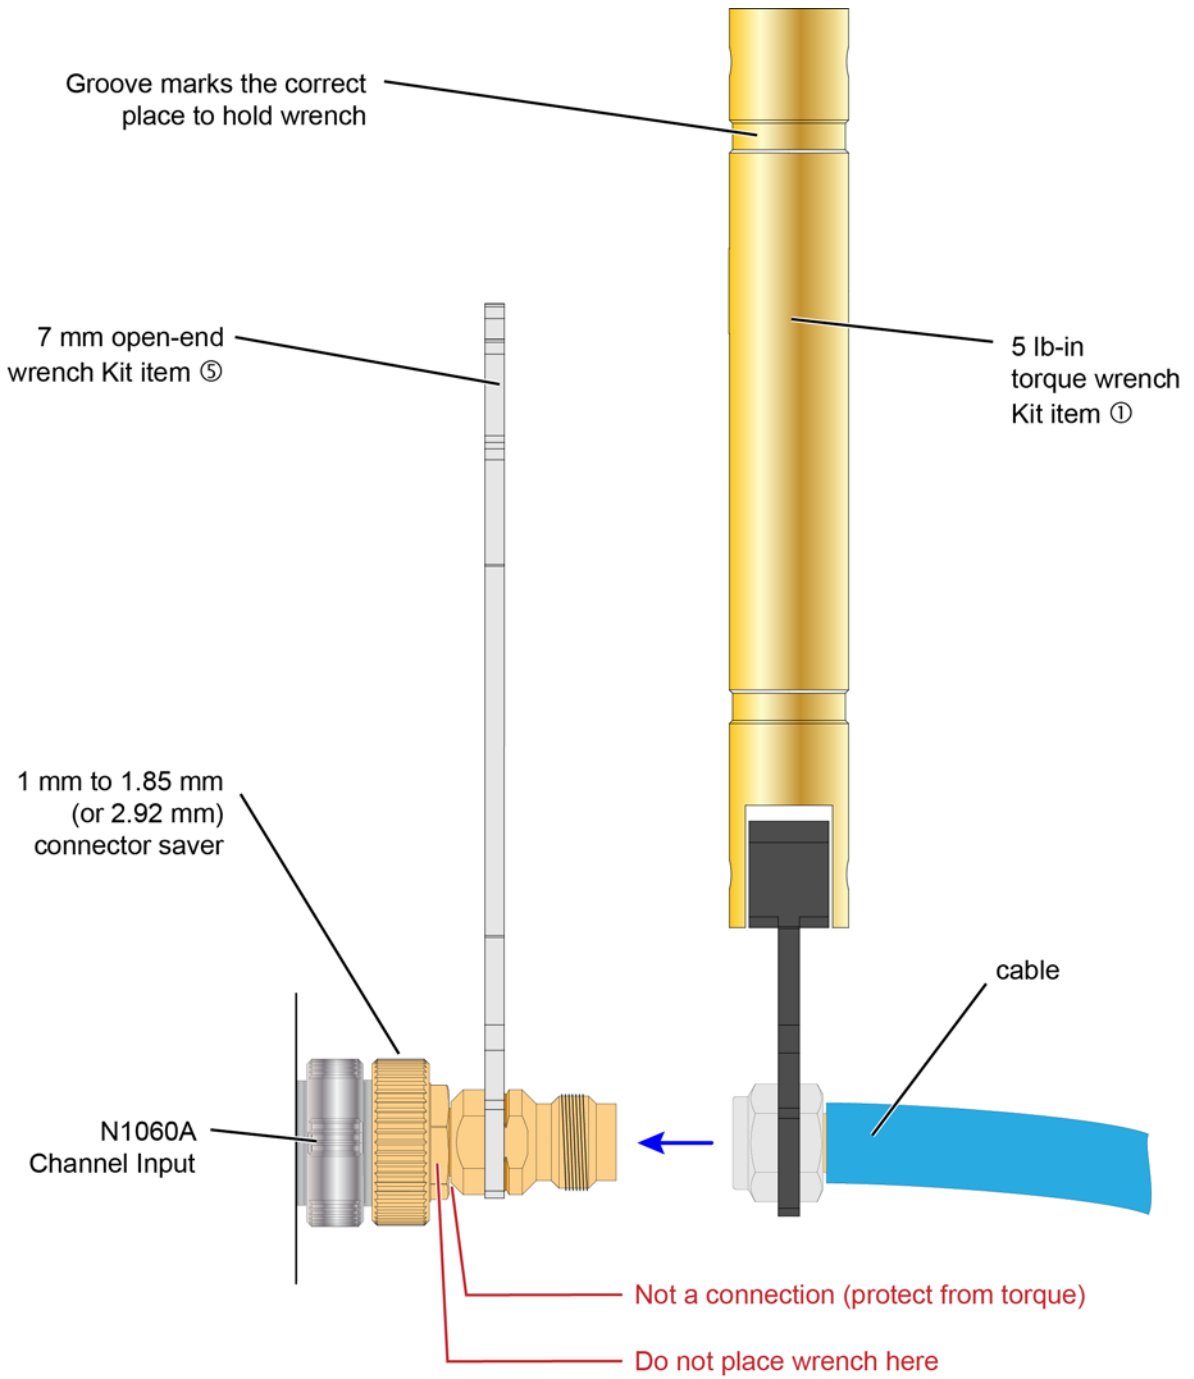
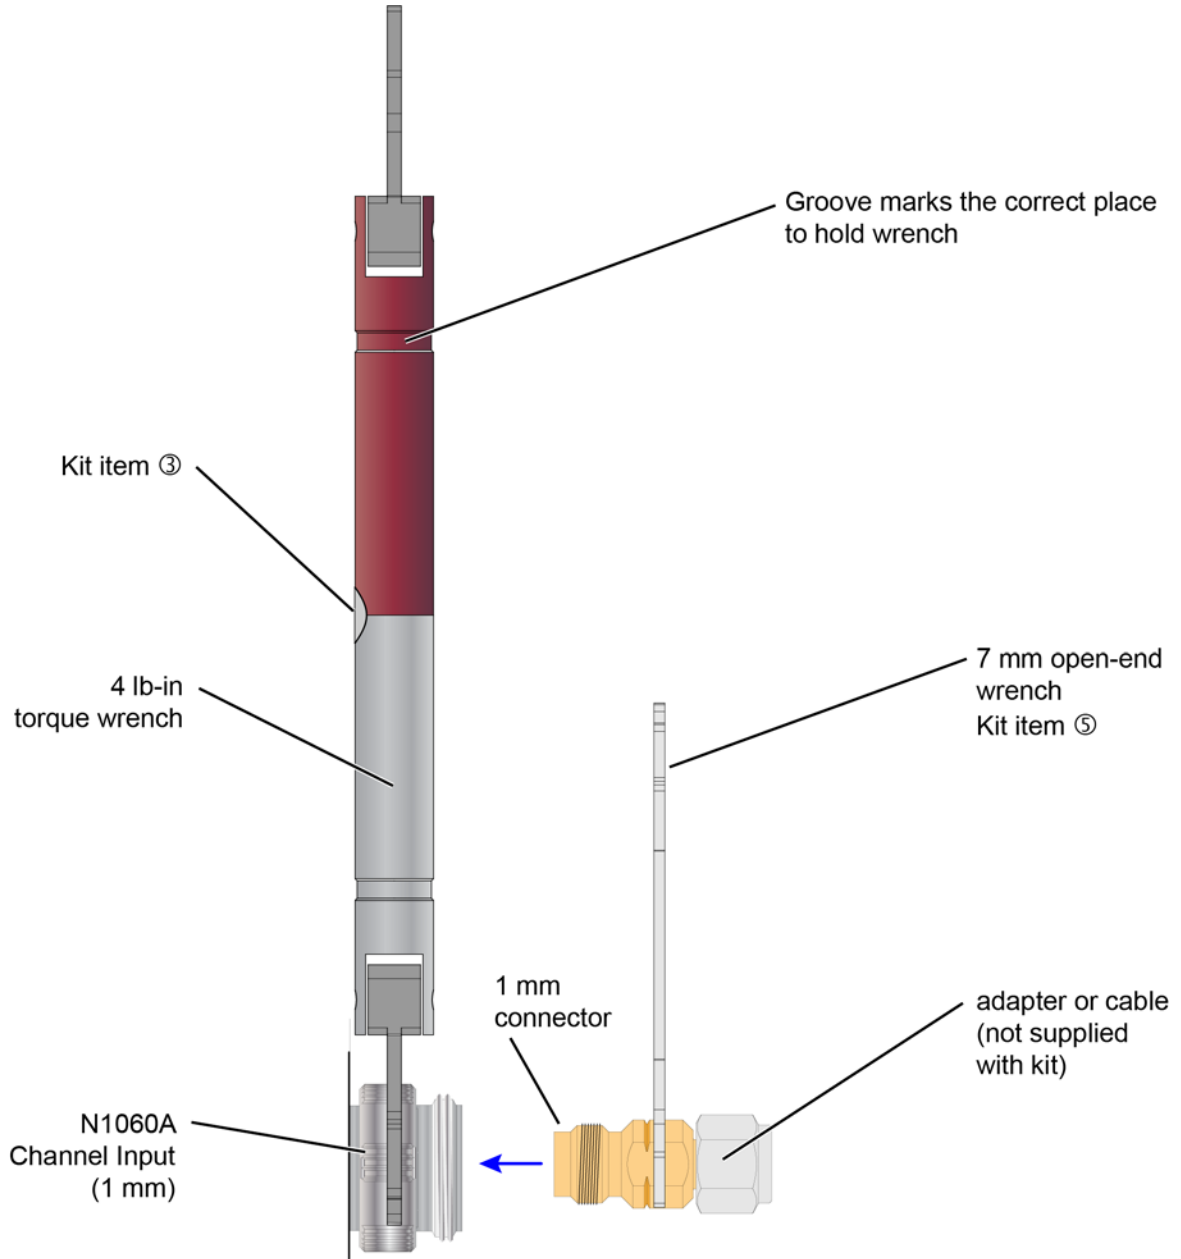

Figure 7 Wrenches Positioned on Correct Flats
Figure 8 Wrenches Positioned on Correct Flats
- See Figure 6, Figure 7, and Figure 8 for Channel Input connectors